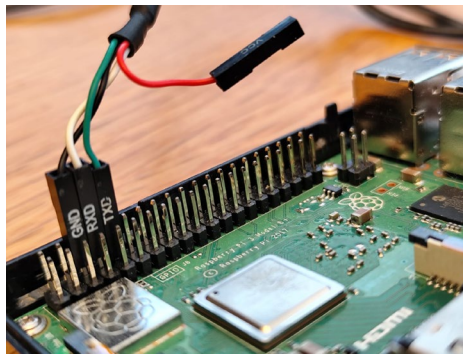

Figure 1. Black, White and Green connected to the most external pin row starting from the 3rd.
8. The new kernel should execute on the RPi as intended (see Figure 1).